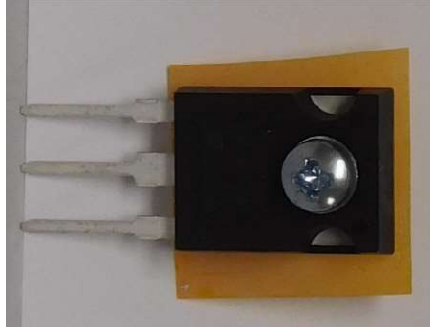

Figure 22-Q5 with 6-32x1/2" mounting screw and insulator
- c. Assemble them as shown in Figure 22. Insert Q5 into the holes on the PCB and snug, but don't fully tighten the mounting screw. Solder Q5's leads into the PCB.